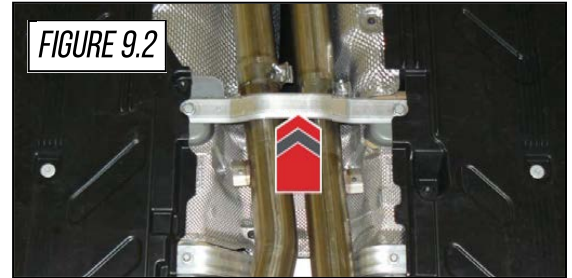

FIGURE 9.2
**PRO-TIP:** Reinstalling the OEM cross-brace with the original hardware will help hold up the exhaust up to this point, making it easier to install the remainder of the system, as shown by the arrow **Figure 9.2**.